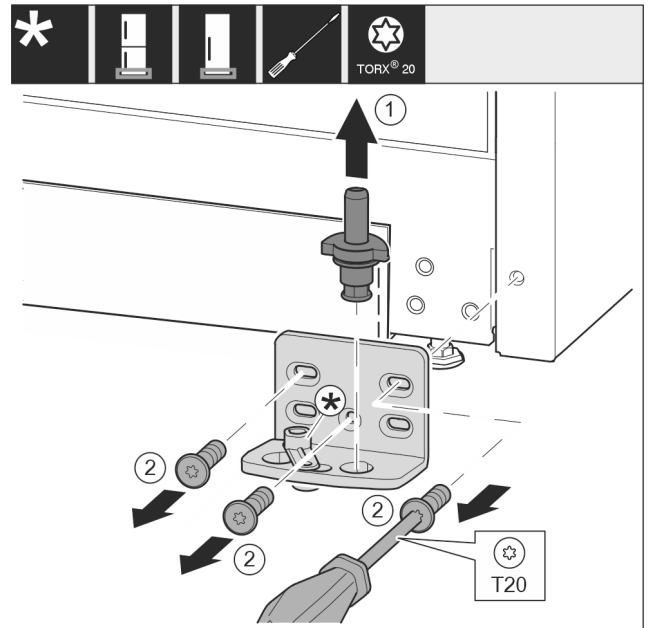

Fig. 11
- ▶ Lift the bearing pin completely upward and pull it out. Fig. 11 (1)
- ▶ Take out the screws with a T20 screwdriver and take off the bearing bracket. Fig. 11 (2)